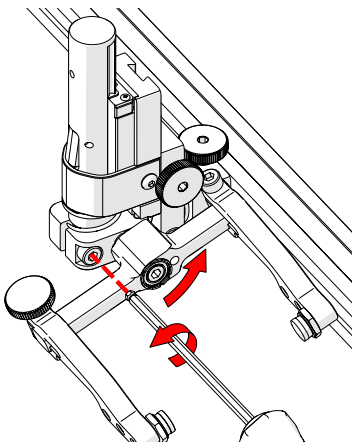

Fig. 51 - Loosen 3 mm screw
2. Using the supplied 3 mm hex driver loosen the transverse adjustment screw (*Fig. 51*) and rotate the yoke about the vertical shaft achieving the desired angle.